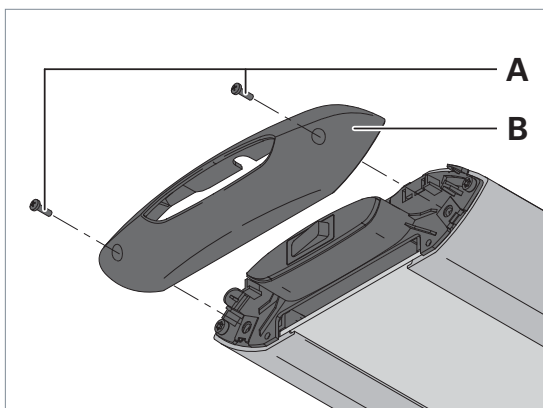
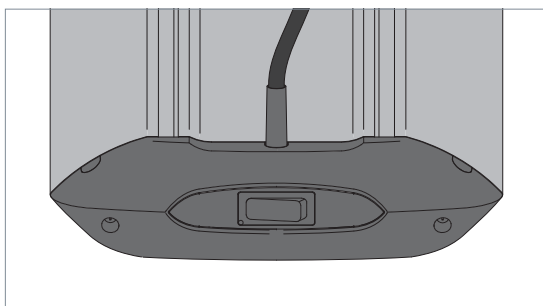

Fig. 3: Mounting the side part.
Fig. 4: Side part and grommet mounted.
- ▶ Mount the side part **B** using the enclosed screws **A**, see Fig. 3 and see Fig. 4.